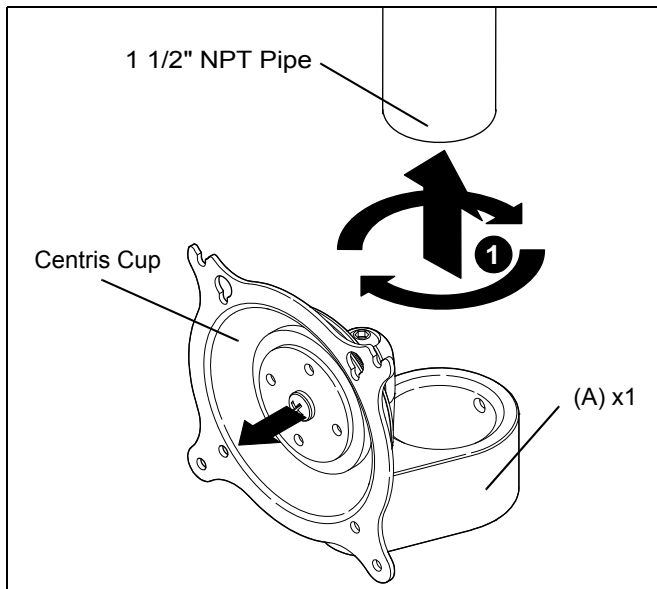

Figure 1
1. Thread mount (A) onto 1 1/2" NPT pipe until hand tight.
2. Adjust mount (A) position until Centris cup is facing the desired position of the display. (See Figure 1)